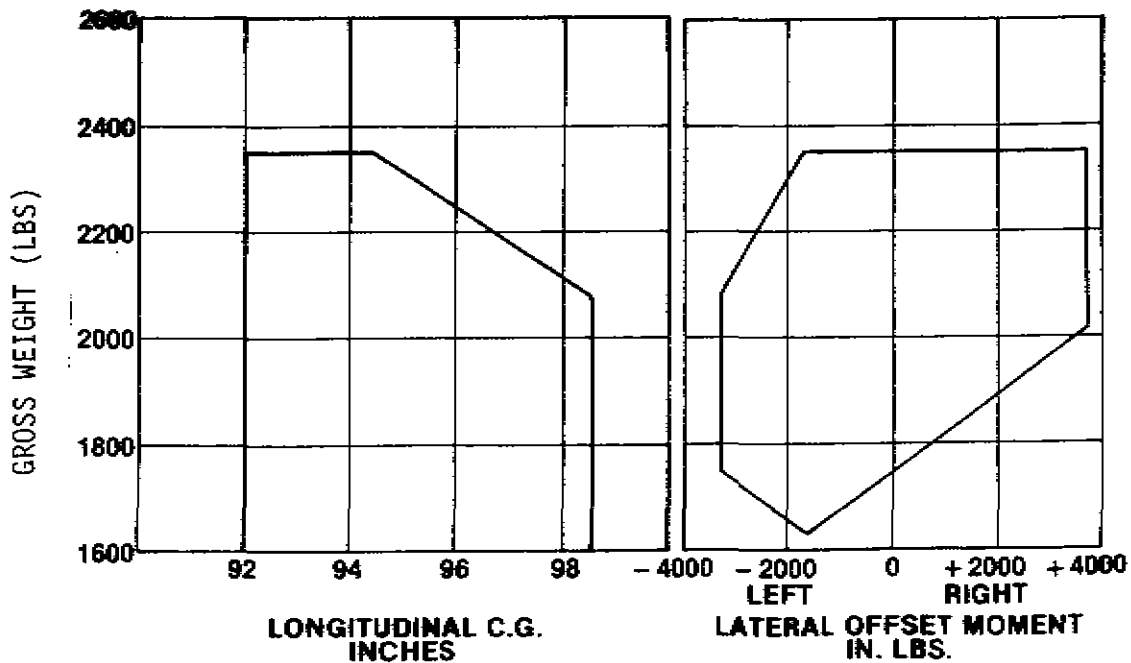

Figure 10.8.3
B. Lateral - see Figure 10.8.3